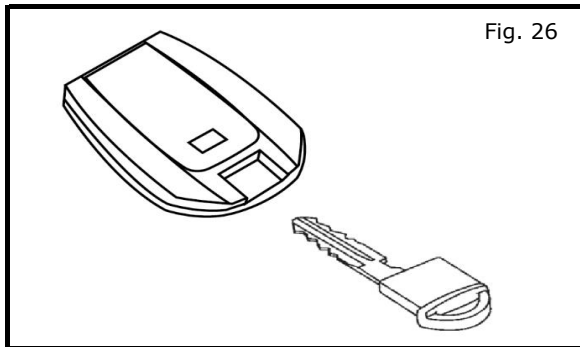

Fig. 26
a) Insert keys into the new RES fobs as shown in Fig. 26.